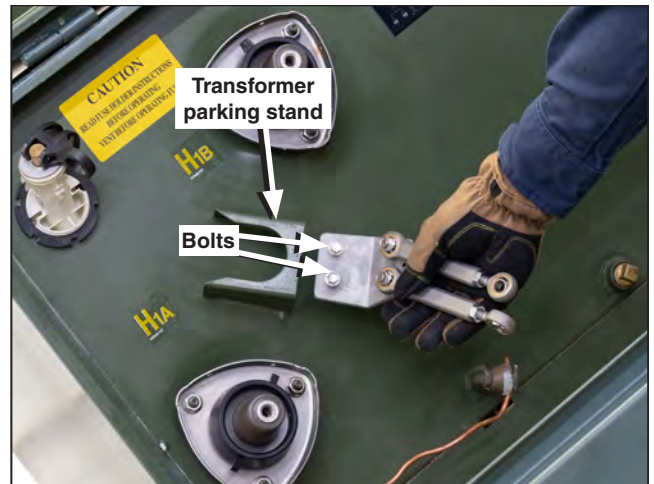
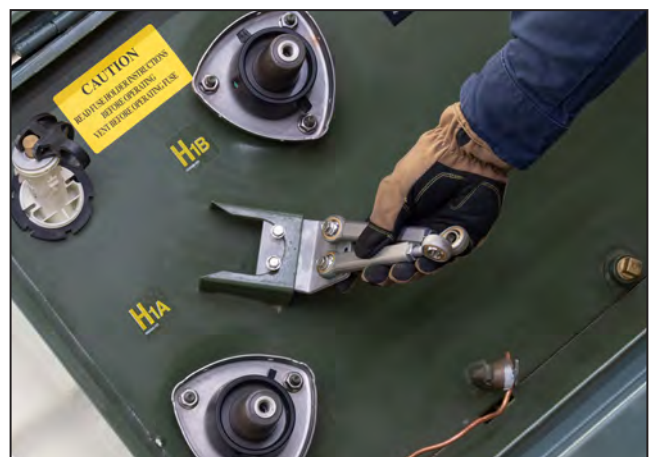

Figure 10. Slide the parking stand link bracket in from the bottom.
Figure 12. Pull down until the bolts hit the radius of the stand's opening.
STEP 1. Insert the parking stand link bracket into the original transformer parking stand, as shown in Figure 10 through Figure 12, by sliding it in from the bottom, up, and then back out until the bolts hit the radius of the stand's opening.